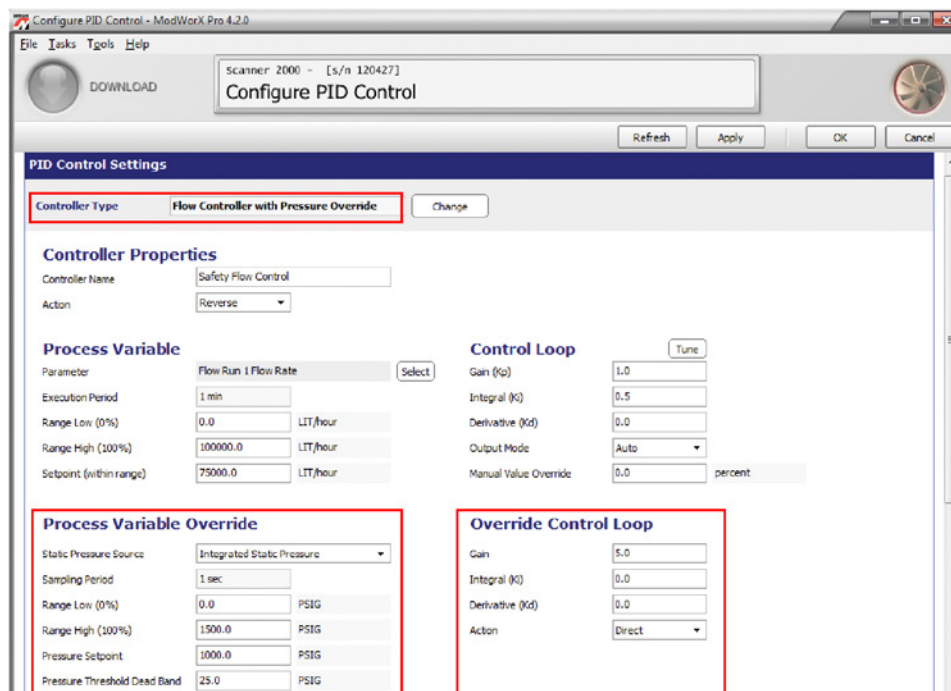

Figure B.6
**Note** The Proportional Constant ( $K_p$ ) is referred to as “Gain” in the ModWorX Pro software interface. Gain is fundamental to the PID controller, because it is used to determine the controller output value. For example, assume a gain value of 1.0 (actual gain values will be much smaller due to normalization of the process variable operating range), a setpoint of 50%, and a process variable reading of 60%. To determine the output value, the controller multiplies the error (the process variable reading minus the setpoint, so 10 in this case) by the gain factor (1), the calculated output value would be  $10 \times 1$ , or 10 (percent of output change). The direction of the change (increase or decrease) in the output is determined by the action set in Step 3.
8. In the Pressure Variable Override section (see Figure B.6), click in the “Static Pressure Source” field and select the static pressure source.